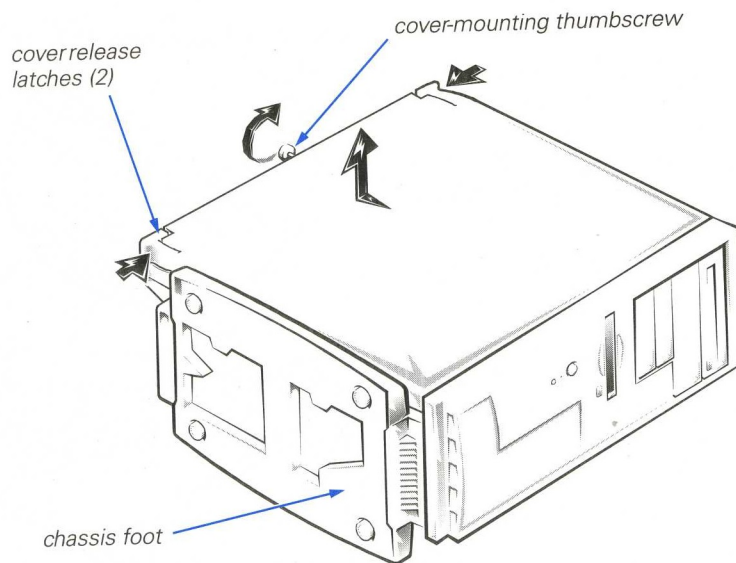

**Figure 2-1. Removing the Computer Cover (Mini Tower Chassis)**
3. Loosen the cover-mounting thumbscrew shown in Figure 2-1 that secures the cover to the back of the computer.